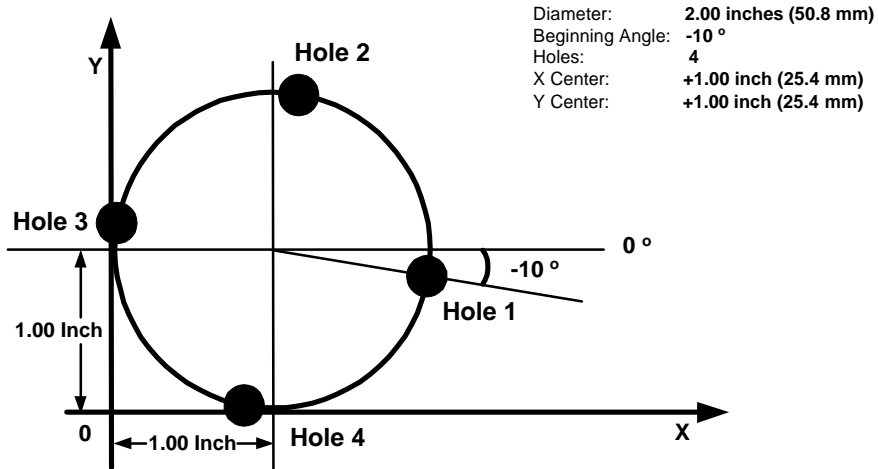

Figure 2: Full Bolt-Hole Pattern
- Full Pattern In a full pattern, the holes cover the entire circumference of the circle. (See Figure 2)